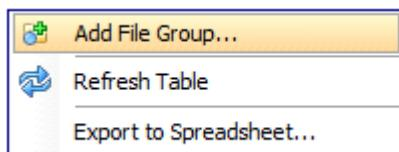

Figure 8-22: **Add File Group Option**
1. Right-click **IP File Groups**, and select **Add File Group**, as shown in Figure 8-22.